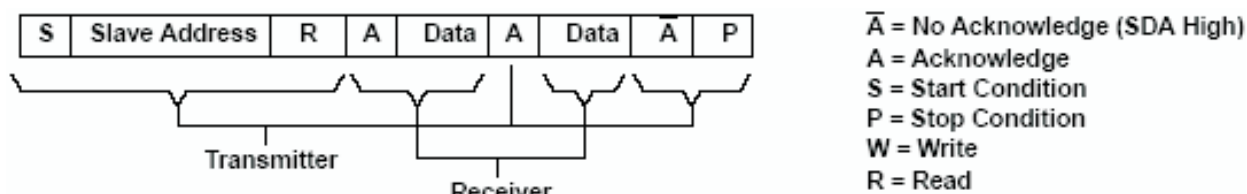
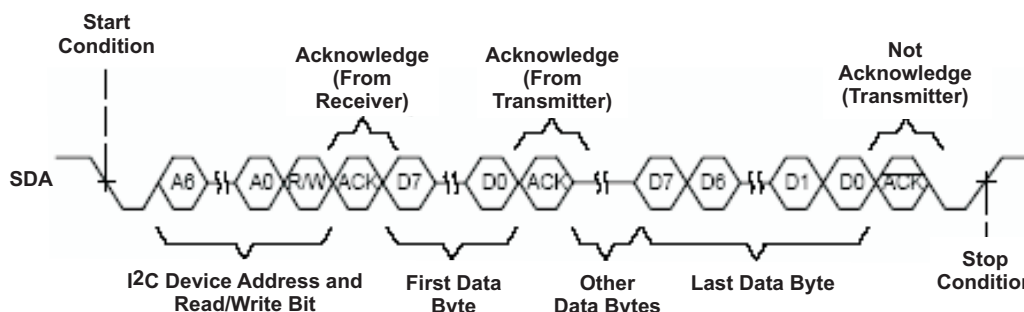

Figure 35. I²C Read Cycle
Figure 36. Multiple Byte Read Transfer
address. Following this initial acknowledge by the slave, the master device becomes a receiver and acknowledges data bytes sent by the slave. When the master has received all of the requested data bytes from the slave, the not acknowledge (A) condition is initiated by the master by keeping the SDA signal high just before it asserts the stop (P) condition. This sequence terminates a read cycle as shown in Figure 35 and Figure 36. See **Example – Reading from the SN75DP122A** section for more information.
The SN75DP122A operates using a multiple byte transfer protocol similar to Figure 36. The internal memory of the SN75DP122A contains the phrase *DP-HDMI ADAPTOR<EOT>* converted to ASCII characters. The internal memory address registers and the value of each can be found in Table 3.